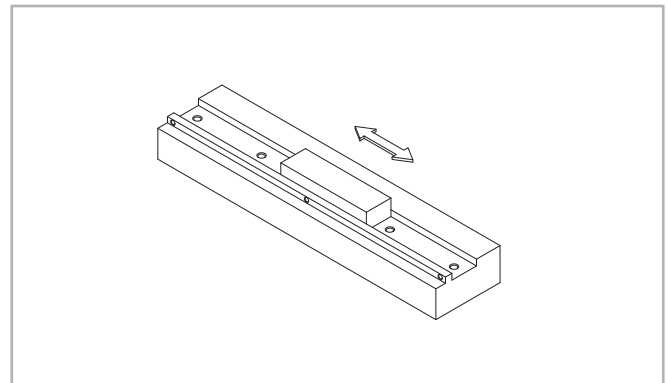

Fig. 55
(1) Whet the assembly surface with a whetstone and also remove burrs, unevenness and dirt (see fig. 55).